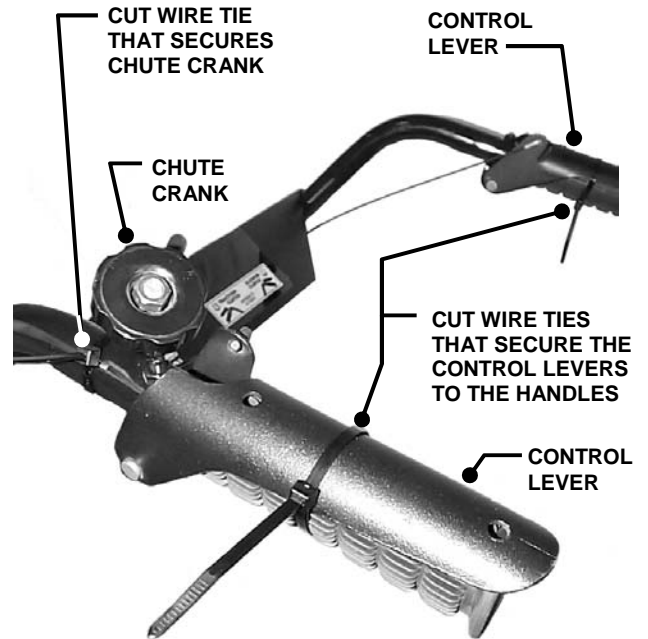

FIGURE 3
**STEP 3: HANDLES:** Cut both wire ties that secure the control levers to the handles. Cut the wire tie that secures the chute crank to the handle. See Figure 3.